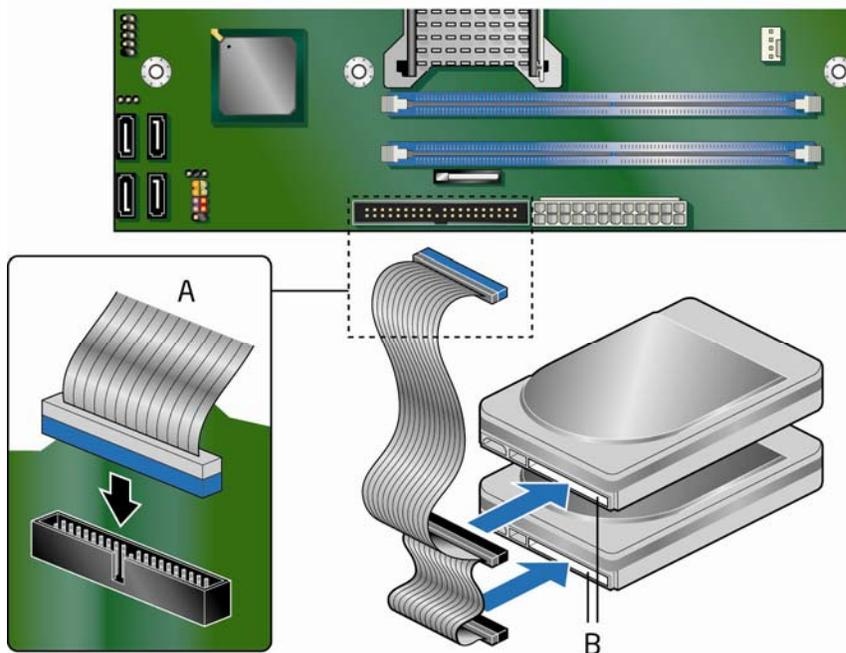

Figure 18. Connecting the IDE Cable
The IDE cable can be used to connect two IDE drives to the Desktop Board. The cable supports the ATA-66/100 transfer protocol. Figure 18 shows the correct installation of the cable.
2. Attach the cable end with the single connector (blue) to the Intel Desktop Board (Figure 18, A).
3. Attach the cable end with the two closely spaced connectors (gray and black) to the drives (Figure 18, B).